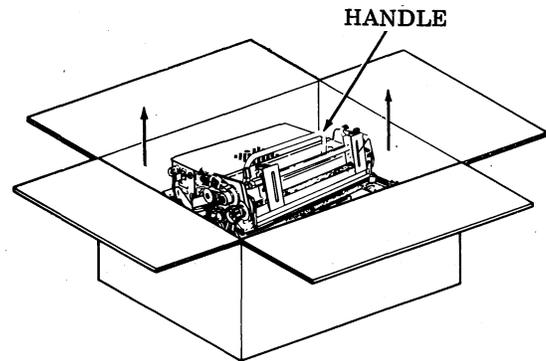

Fig. 12—Printer in Carton
3.15 Grasp handle and lift printer out of carton (Fig. 12).